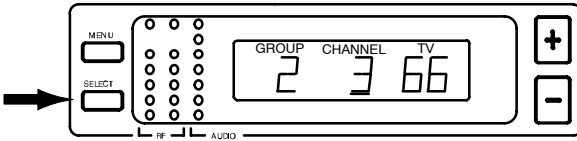

FIGURE 14
- Press the SELECT button until a line is below the character you want to change, as shown in Figure 14.